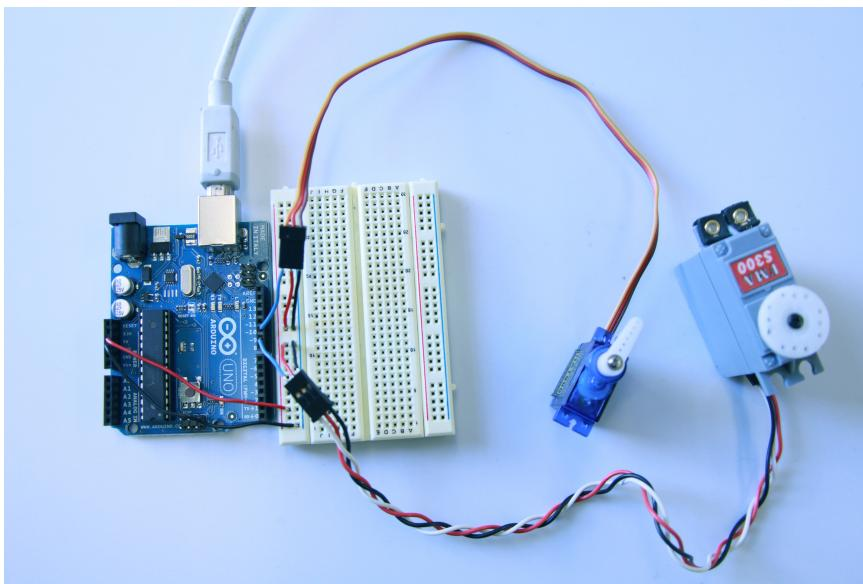

Figure 6-7. The Arduino connected to two servos.
With this in mind, let's plug in our servos. You'll need your Arduino, your servos, a breadboard, some solid core wire, and a good pair of wire strippers. Figure 6-7 shows the setup we'll be building. Follow these steps to recreate it yourself:
- Connect the red, black, and control wires to each of the holes in the servos' headers. Make sure to match the red wire to the hole corresponding to the servo's red wire, the black wire to the servo's black wire, etc. (refer to Figure 6-7 if you need clarification)